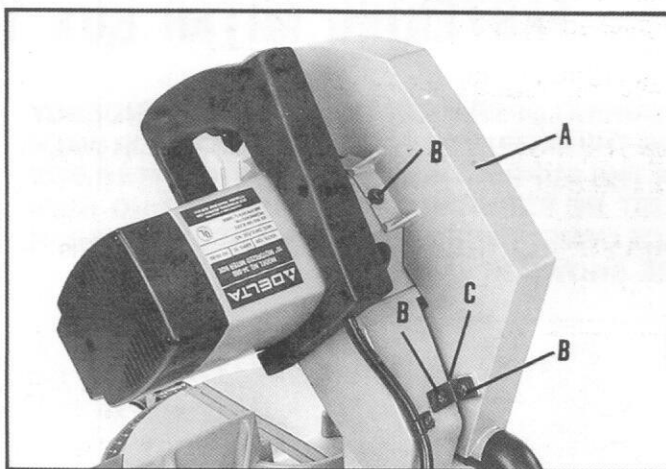

Fig. 5
1. Assemble blade guard (A) to the motor housing using the three screws (B) and bracket (C) Fig. 5.